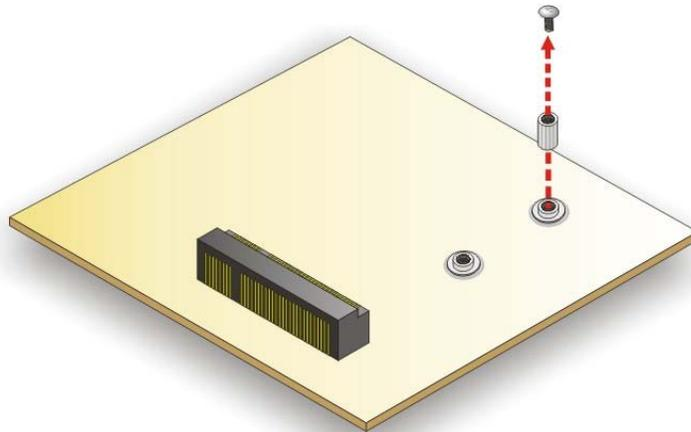

Figure 3-12: Removing the Retention Screw and Standoff
- Step 4:** Remove the retention screw and the standoff secured on the motherboard as shown in **Figure 3-12**.